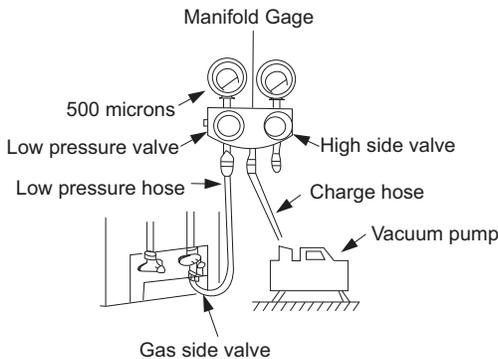

Fig. 8 – Manifold
3. Fully open the low pressure valve of manifold gage (see Fig. 8).